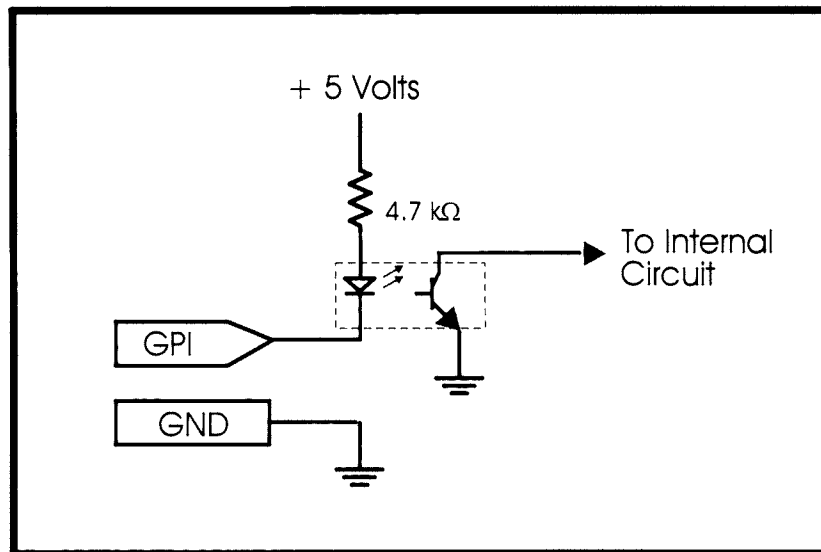

Figure 6: GPI Input Circuitry
- Figure 6: GPI Input Circuitry 4
To make an input active, lower the signal to near ground potential (i.e. connect to shell or chassis ground). This can be done with a switch, relay, TTL drive, GPO output or other similar method. Figure 6 shows the input circuit for the General Purpose inputs. The *GPI Mode* menu item is used to configure the operation of the GPI inputs. (See section 5.7)